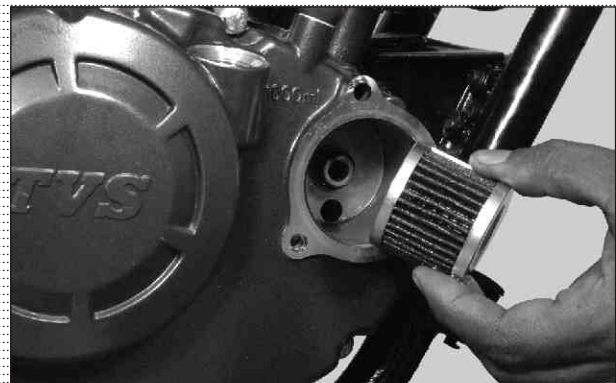

Fig. 4.43
- The filter complete engine oil should be periodically inspected, cleaned and changed if necessary with a new one. (Fig 4.43)